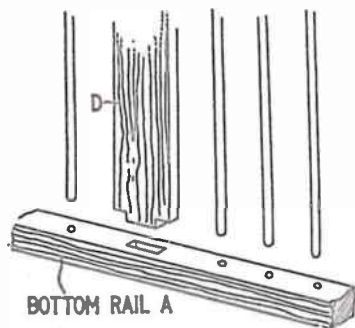

Fig. 2
centre rail (D). Lay the four pieces (A) together and mark all positions at once. The centre rail (D) is tenoned into the rails to a depth of $\frac{1}{2}$ in. as shown in Fig. 2. The dowels are also let in to a depth of $\frac{1}{2}$ in.